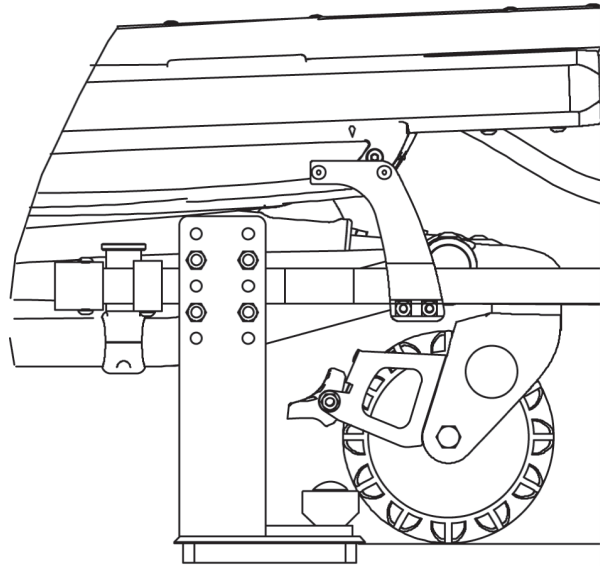

Figure 7 - Cot Engaging Cot Fastener
6. Adjust the magnet assembly along the rail clamp until the arrow on the sensor housing is lined up with the fastener as shown in Figure 7.